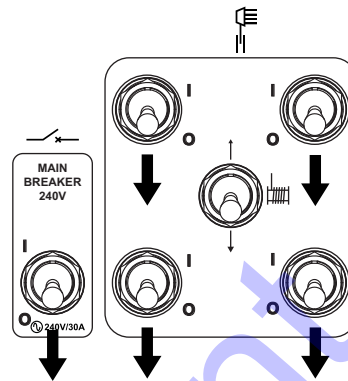

Figure 3-4. Circuit Breakers in OFF (O) Position
1. See **Figure 3-4**. Verify the main circuit breaker and individual circuit breakers for each of the lights are OFF (O).